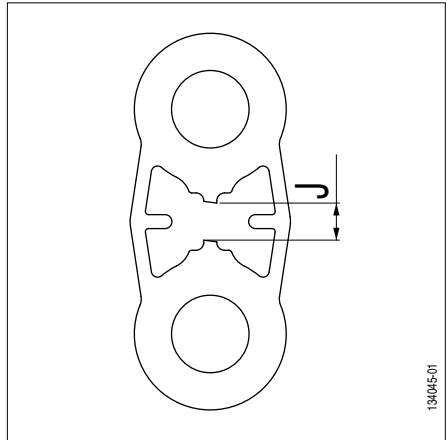
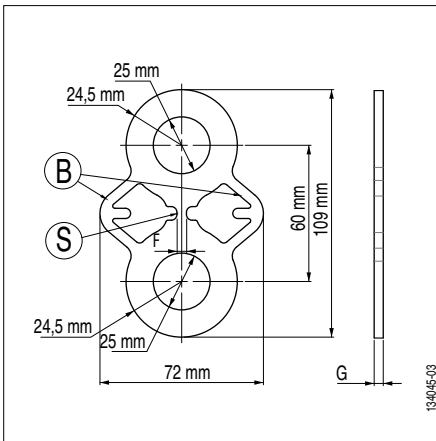

Fig. 1
Fig. 3
The test load is reached when the central section of the plate (fig. 3, page 10, item S) shears. A pair of brace arms (fig. 3, page 10, item B) secure the loading line after shearing of the ‘S’ section.
The different TA test plates are made of stainless steel of the same grade to ensure shearing of the section (fig. 3, page 10, item S) to a level of precision of +/- 10 % of the CR shear load indicated on the TA test plate (Chapter “11 Markings”). The brace arms (fig. 3, page 10, item B) are designed to ensure a mechanical strength of at least the CR shear load indicated on the test plate.
- At the shear load CR indicated on the TA test plate (Chapter “11 Markings”) shear of S section (fig. 3, page 10, item S).
→ Elongation of plate and appearance of clearance ‘J’ between upper and lower half-parts of TA test plate (fig. 1, clearance J).
DANGER : If the operator applies a new load to the test plate after shearing of the ‘S’ section, the brace arm can break (fig. 3, page 10, item B) resulting in falling down of the load application device. The maximum clearance ‘J’ (fig. 1, clearance J) must not exceed 15 mm.